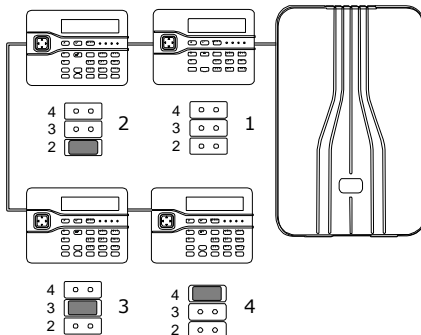

Figure 21 Keypad Addressing Jumpers
7. Select an address for the keypad by placing a jumper on the appropriate address pins (see Figure 21).